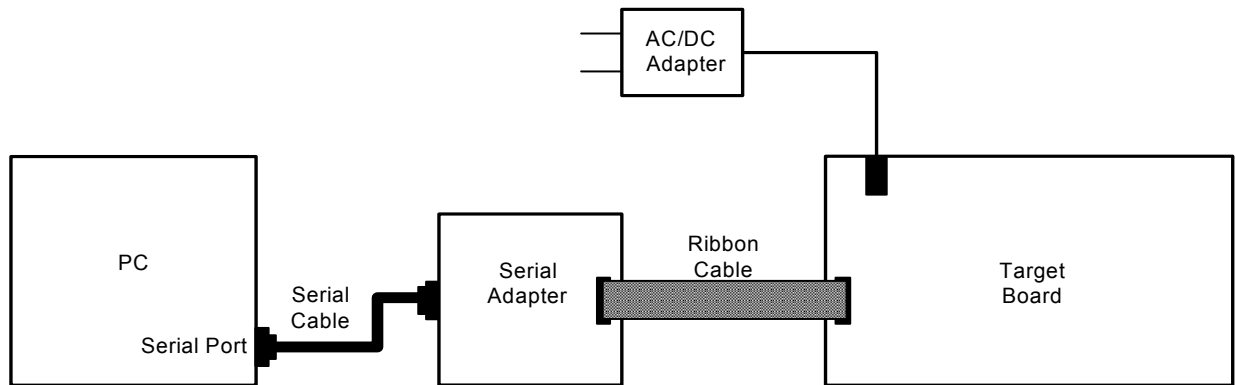
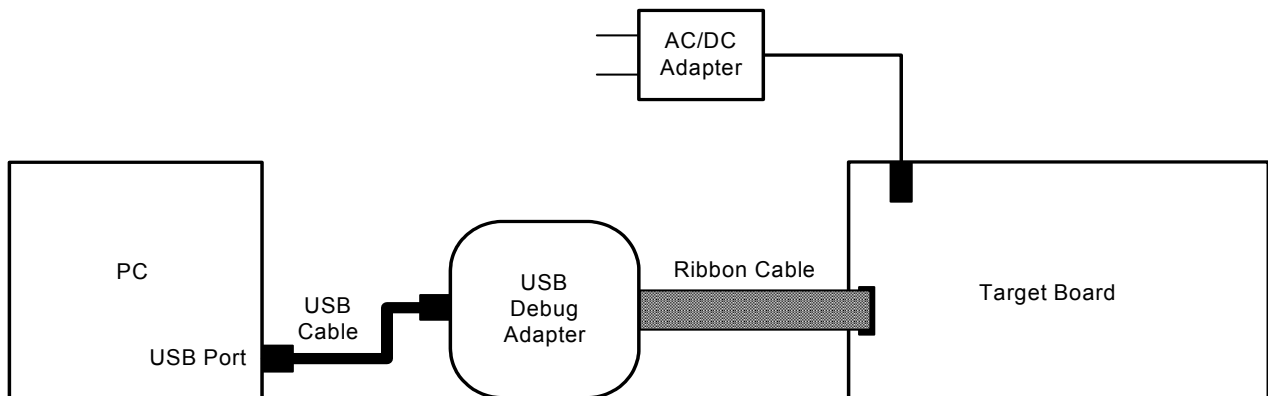

Figure 5. Hardware Setup using a Serial Debug Adapter
Figure 6. Hardware Setup using a USB Debug Adapter
2. Depending on which type of debug adapter you have, set up the hardware as shown in one of the two diagrams below (Figure 5, Figure 6). Consult the C8051F340DK User's Guide for detailed instructions.